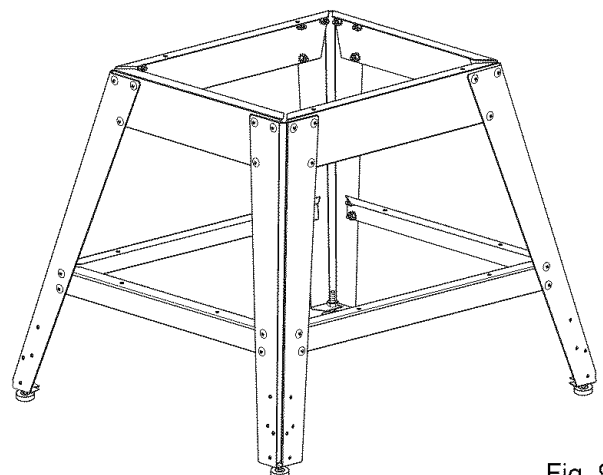

Fig. 9C
- Your leg stand is now completely assembled and ready for use. See Figure 9C.